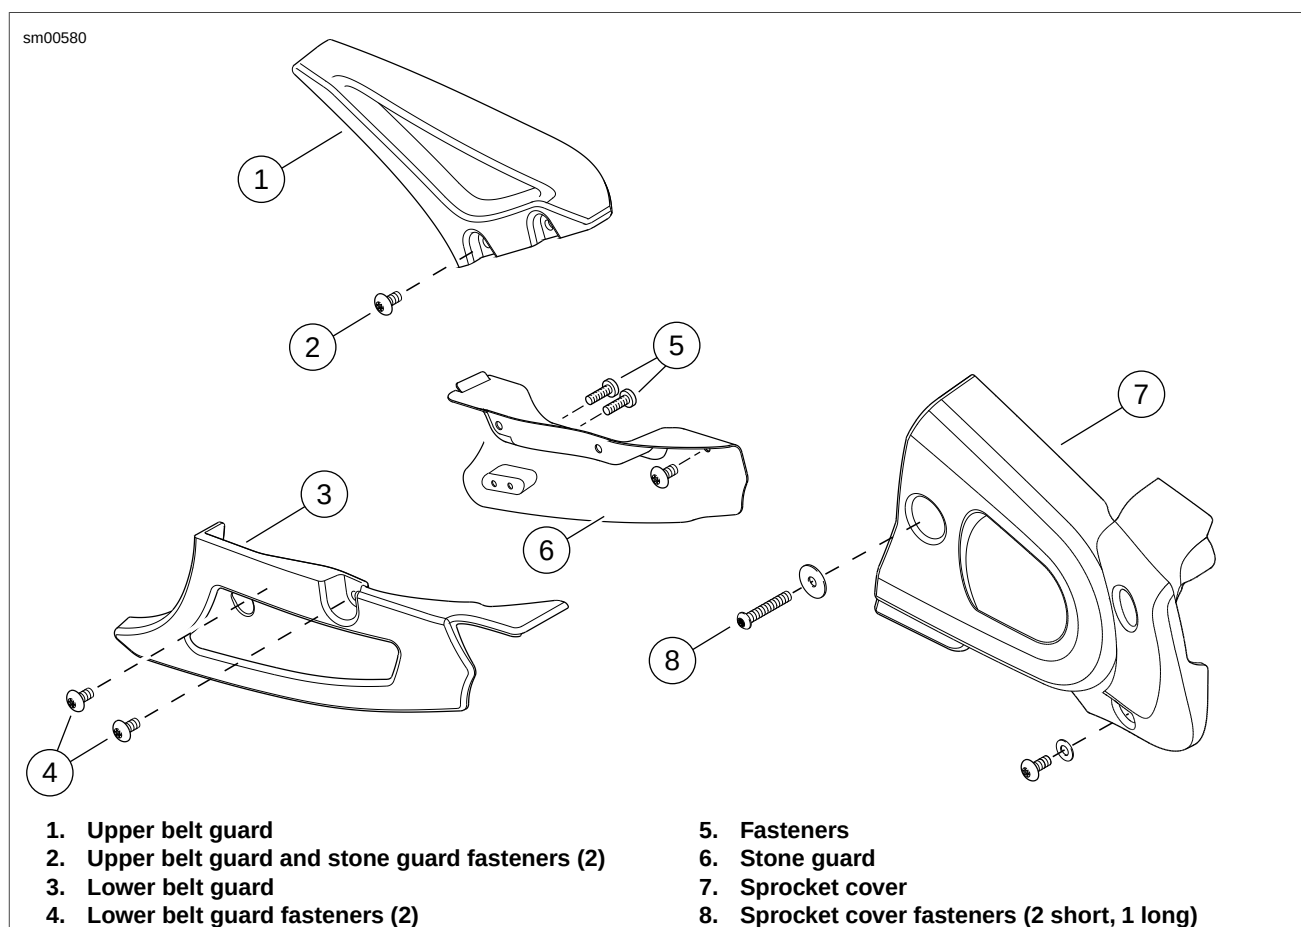

Figure 2-163. Belt Guard Assembly
5. See Figure 2-163. Remove lower belt guard (3) by removing the fasteners (4).
6. Once the lower belt guard has been removed, remove the metal stone guard (6).
7. Remove upper belt guard (1) by removing fasteners (2) from swingarm.
1. See Figure 2-163. Install upper belt guard (1) to swingarm brace tightening fasteners (2) to 12-36 **in-lbs** (1-4 Nm).
2. Install stone guard (6) and tighten fasteners to 12-36 **in-lbs** (1-4 Nm).
3. Install lower belt guard (3) and tighten fasteners (4) to 12-36 **in-lbs** (1-4 Nm).